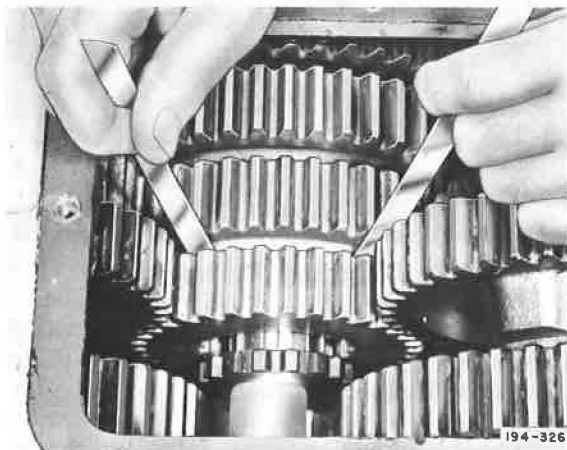

Figure 5-106. Checking Mainshaft Gear End-Play
22. With two feeler gages, check between third speed washer and fourth speed gear for recommended end-play. See Figure 5-106. Refer to "Screw Torques and Adjustment Chart" for selective thrust washers to obtain recommended end-play.